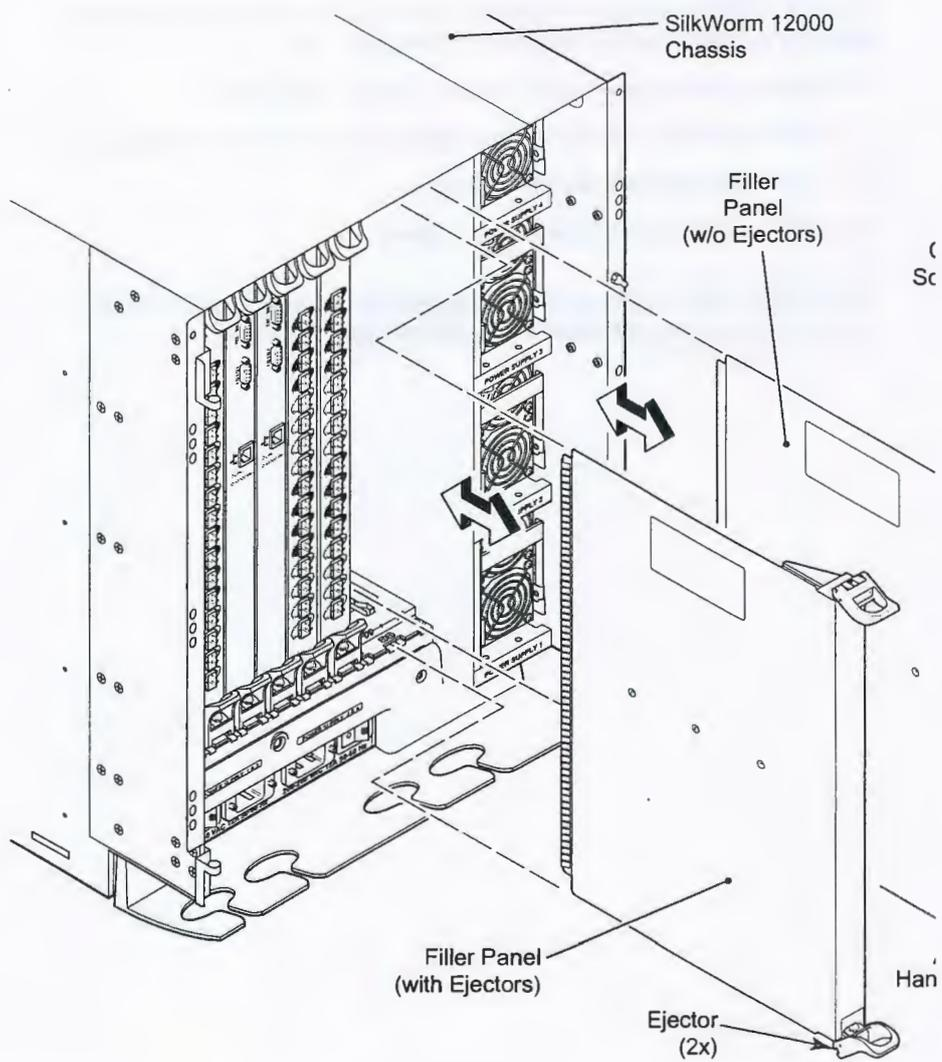

Figure 4-2 Port Card Filler Panel
The ED-12000B accommodates two types of filler panels: one with ejectors, one without (see Figure 4-2 on page -12).
1. Push the yellow tab in on each ejector (see Figure 4-2 on page -12).